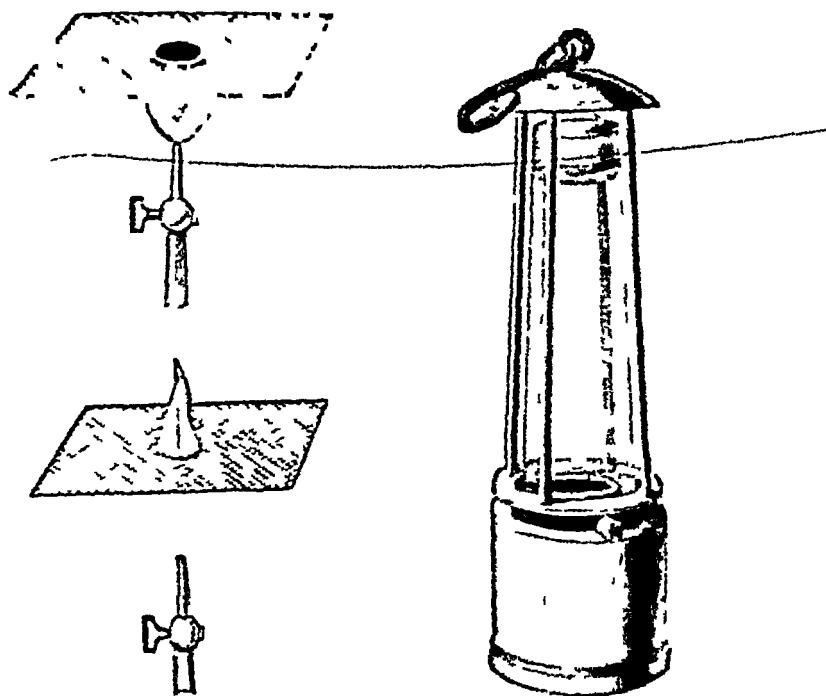

FIG 35
**The Safety Lamp**—Lower a square of iron (brass is better) gauze wire with a close mesh upon a gas flame. The flame burns below the mesh. Put out the gas, and then turn it on. Place the gauze two inches above the jet and light the gas above the gauze, the gas burns above, but does not ignite below the gauze (fig 35).